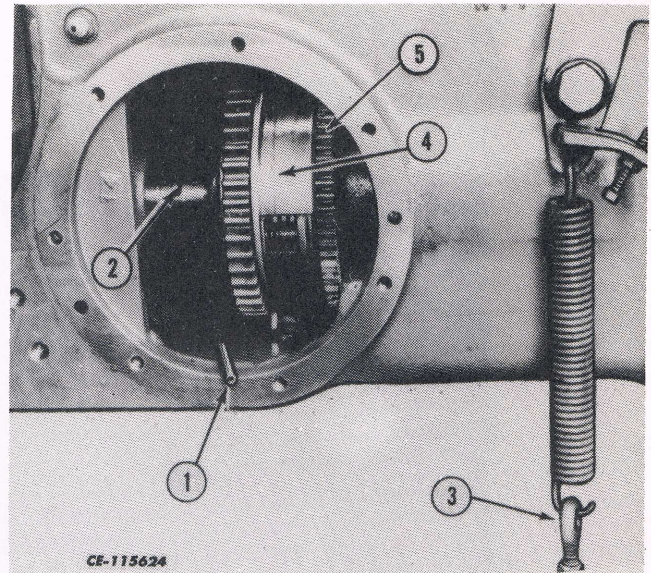

Fig. 2
3. Drive the roll pin (1, Fig. 2) from the clutch cup gear (4) and drive shaft. (2)